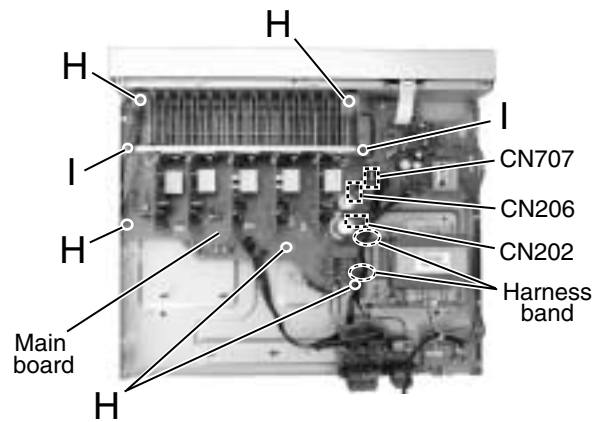

Fig.9
**■ Removing the main board (See Fig.9)**